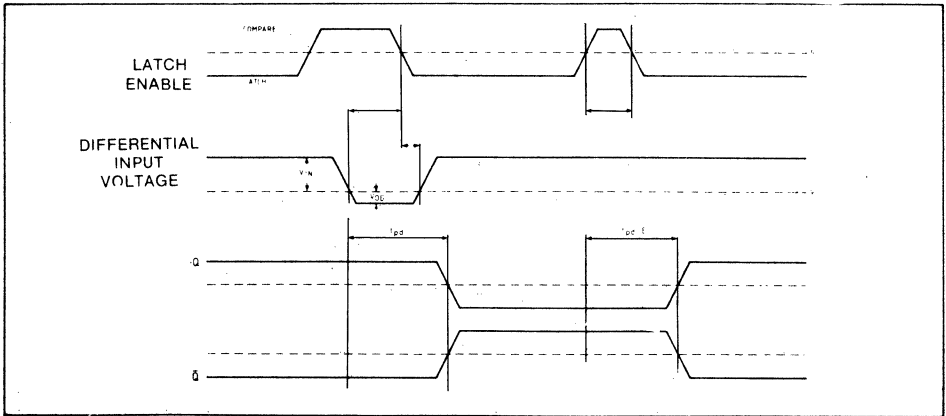

Fig. 3 Timing diagram
The timing diagram, Figure 3, shows in graphic form a sequence of events in the SP9685. It should not be interpreted as 'typical' in that several parameters are multi-valued and the worst case conditions are illustrated. The top line shows two latch enable pulses, high for 'compare', and low for latch. The first pulse is used to highlight the 'compare' function, where part of the input action takes place in the compare mode. The leading edge of the input signal, here illustrated as a large amplitude, small overdrive pulse, switches
**Switching terms (refer to Fig. 3)**